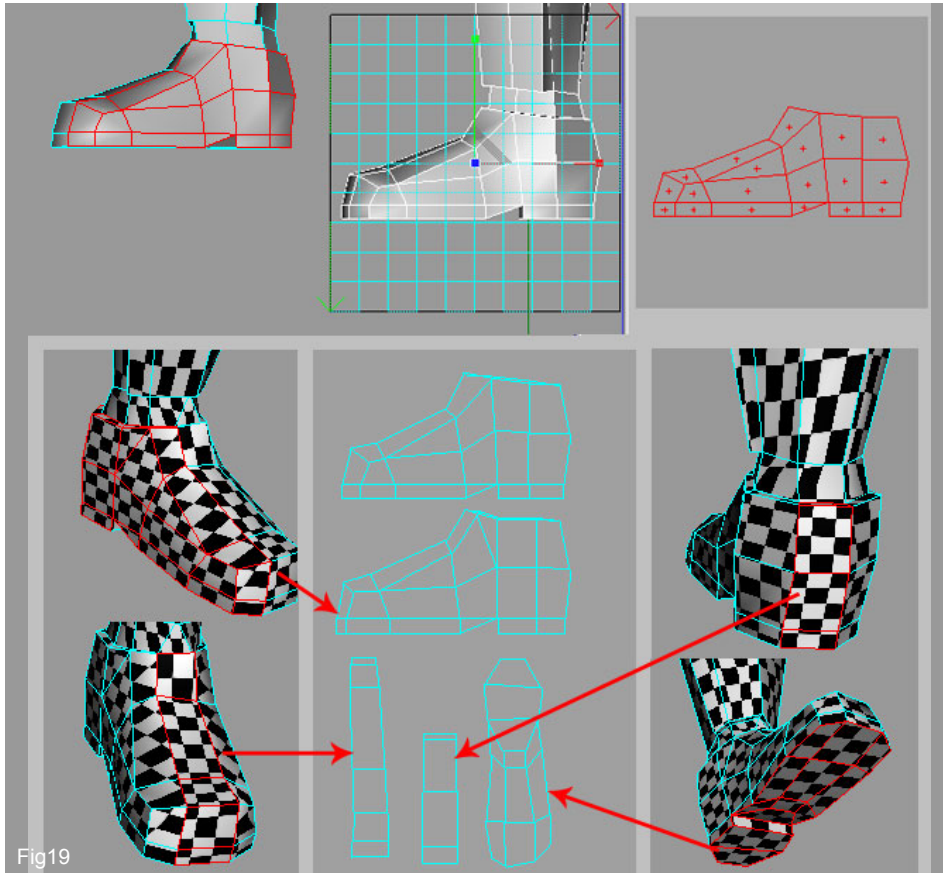

Fig19
19. Same procedure for the lower leg apply so a cylindrical map then adjust the overlaps by using the move tool or the relax UV tool. With regard to the feet simply apply a Flat map from the left and right sides as seen in the top Fig 19. Same projection for the other parts of the shoe rotating the gizmo each time.